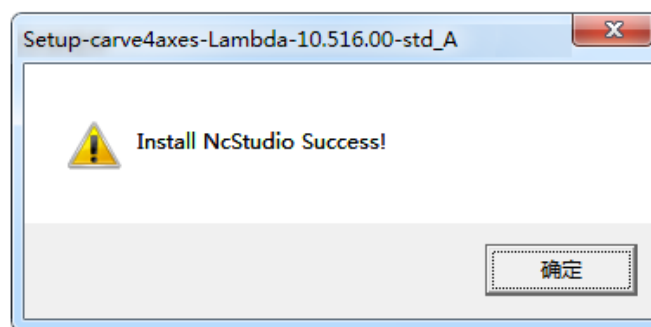

Fig. 2-5 Installation completed
6. Fig. 2-5 will pop up. Click “OK” to confirm.